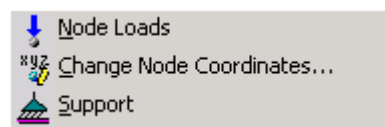

Figure 92 The pop-up menu which presents the joints' properties changing options.
2. Click on the joint. The pop-up menu of figure 92 will appear.